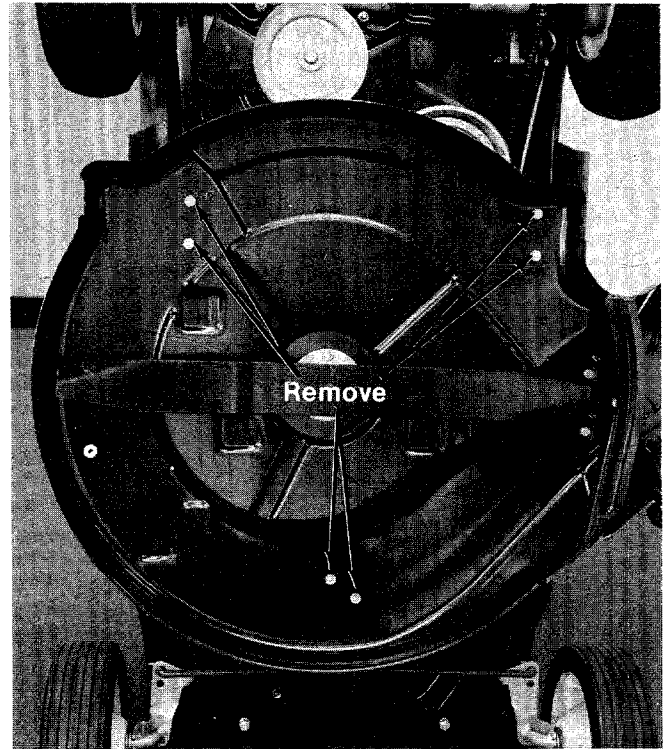

FIGURE 20. DECK REMOVAL
Step 3. Remove six hex screws, nuts and lock washers holding the deck. See figure 20.